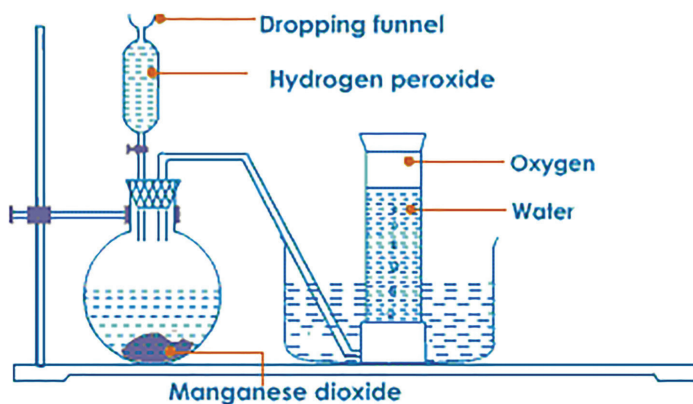

Fig 3.7: Decomposition of hydrogen peroxide using manganese (IV) oxide
1. Arrange the apparatus as shown in Fig 3.7 below.
2. Decompose the hydrogen peroxide without manganese (IV) oxide by dropping the hydrogen peroxide into the round bottomed flask. Record the volume of the gas produced at various intervals of time.
3. Add manganese (IV) oxide into the round bottomed flask and repeat the procedure. Observe and record the volume of the gas as shown in table 3.5 below.